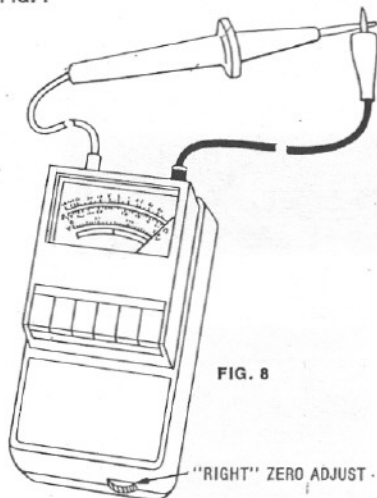

FIG. 8
- Short the Test Leads. See Fig. 8.